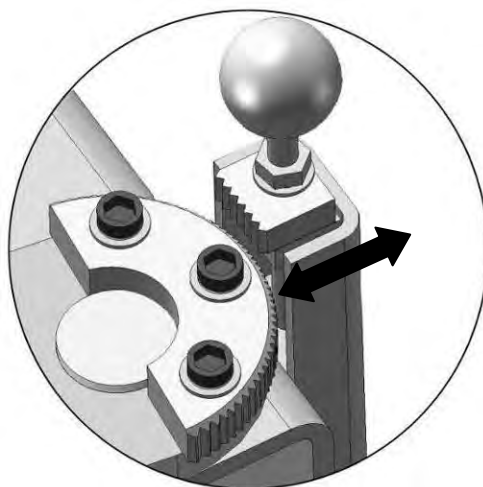

Fig. 24
3. Adjust the arm lock either back or forth to mesh the gear lock teeth (See Fig. 24).